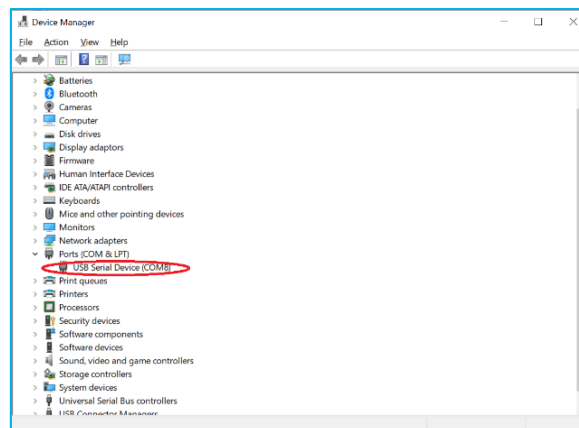

Figure 2: SGW2828-EVK PC Tool COM Port Selection
2. On your PC, open up Device Manager > Ports (COM & LPT) to determine the COM port number to which the SGW2828-EVK is connected (Figure 2).